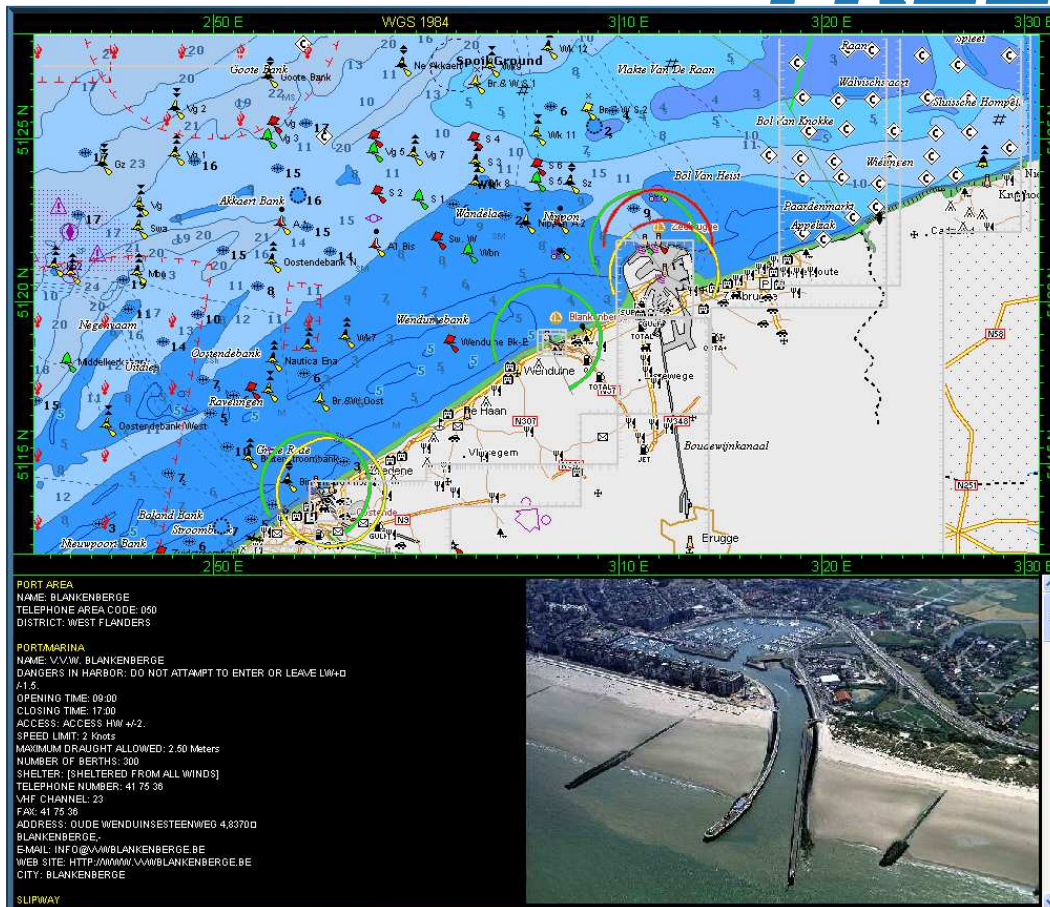

Figure 8-5: Port area information (typical)
2. Click on any chart object, symbol or area to display the data of the concerning item or area (see Figure 8-5). This data includes information such as: navigation lights, piloting info, yacht clubs and marinas, current streams, depths, hazard/warning areas, marine parks, fishing grounds, Points-of-Interest (POI) etc.
For example, full port/marina details are displayed by clicking on the marina chart symbol (see Figure 8-5).